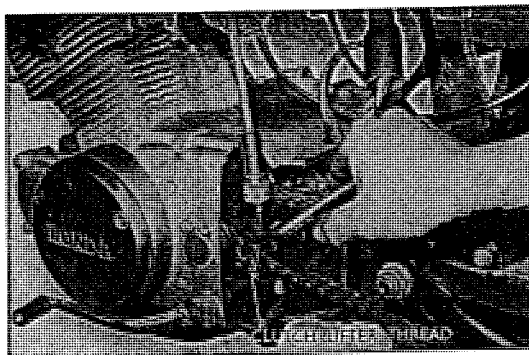

Fig. 3.5 Clutch cable core
6. Remove the left crankcase rear cover and separate the cable end together with the clutch cable joint from the cable core. (Refer to Fig. 3.5)